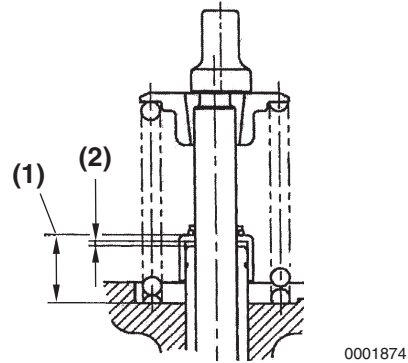

Figure 6-65
2. Measure the distance (Figure 6-65, (1)) from the cylinder head to the valve stem seal to ensure proper clearance (Figure 6-65, (2)) between the guide and seal. See *Intake / Exhaust Valve and Guide on page 6-7*.